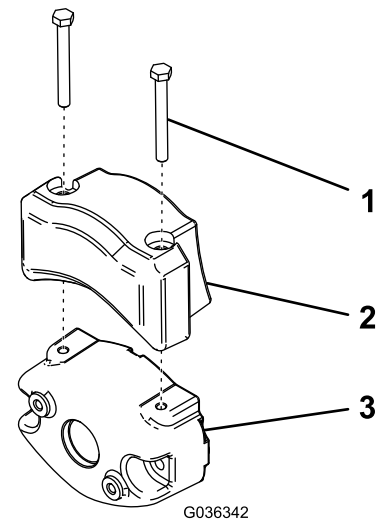

Figure 9
4. Secure the electrical counterweight to the existing counterweight with 2 capscrews as shown in Figure 9.